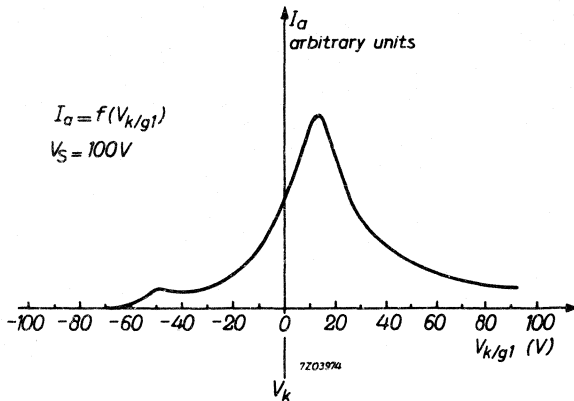

Fig.1 Anode current variation with the adjustment of g_1 .
- a. the most satisfactory collection (i.e. for a given luminous flux the largest obtainable anode signal); for this adjustment, see Fig. 1; the optimum value of the potential is about $0.15 V_G$;